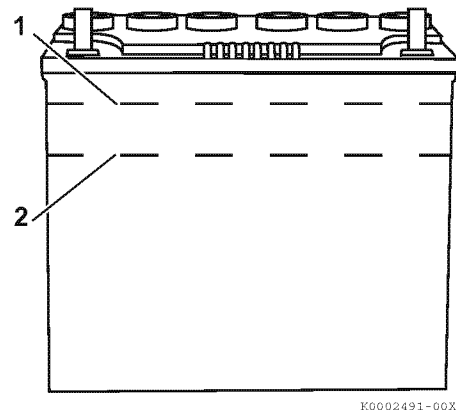

Figure 18
- When the amount of fluid nears the lower limit line (2, **Figure 18**), remove caps and fill with distilled water so it is at the upper limit line (1, **Figure 18**). If operation continues with insufficient battery fluid, the battery life is shortened, and the battery may overheat and explode. During the summer, check the fluid level more often than specified.